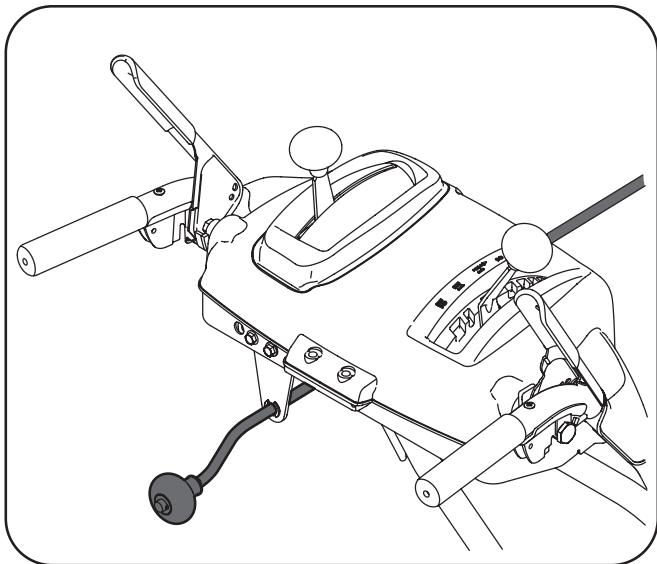

Fig. 3-6
- Guide the chute crank rod through the bracket located on the rear of the handle panel. See Fig. 3-6.